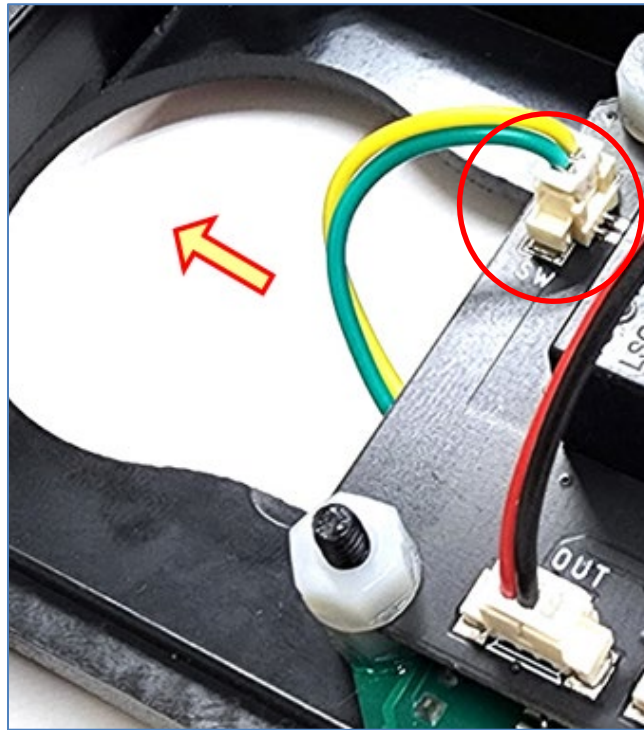

Figure 11. Green and yellow connector plugs into SW position.
6. Plug green and yellow connector in SW position on SMART START Module (Figure 11).